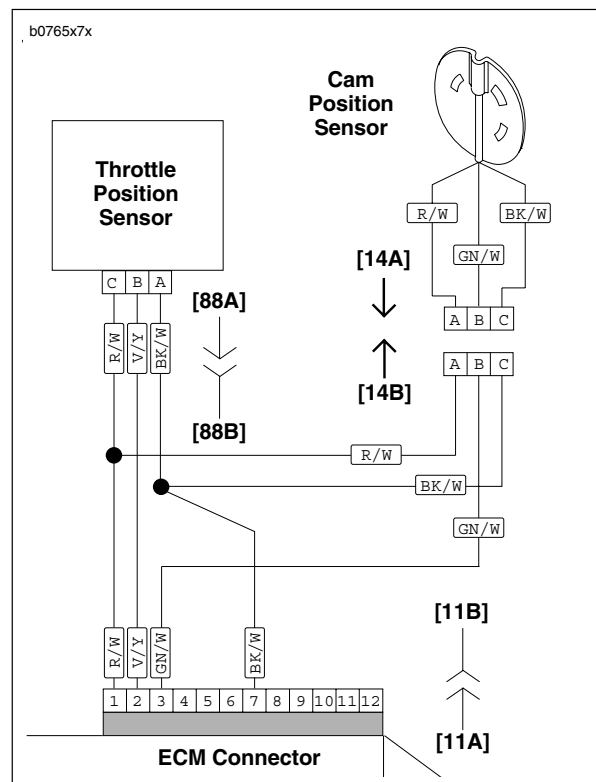

Figure 4-69. Connecting Sensor Wires
- Install trigger rotor (16).
- Apply LOCTITE 243 (blue) to threads of bolt (17).
- Position trigger rotor (16) onto end of camshaft aligning notch with camshaft slot.
- Install cam position sensor (18) and timer plate studs (4). Rotate cam position sensor to its previously marked position to obtain approximate ignition timing.
- See Figure 4-69. Install sensor wiring terminals into correct positions in plug end of connector [14]. R/W, GN/W and BK/W wires of plug end (from cam position sensor) must match same color wires in receptacle end of connector (from ignition module wiring harness). Install pin terminals. See B.2 DEUTSCH ELECTRICAL CONNECTORS under B.1 AMP MULTILOCK ELECTRICAL CONNECTORS.